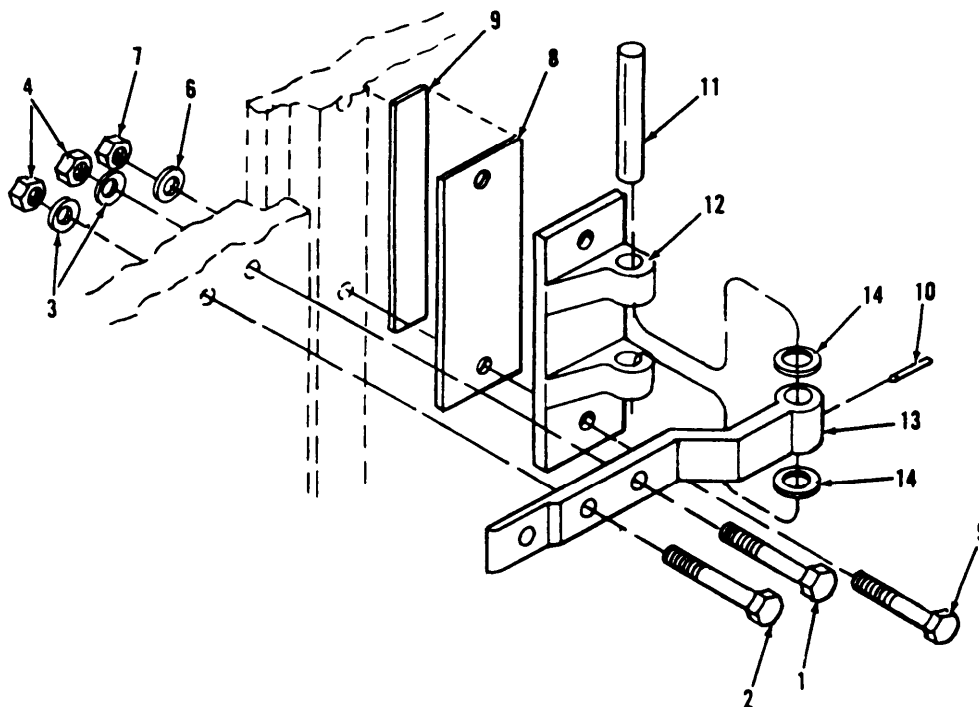

Figure 3-16. Hinge Assembly Replacement.
a. Inspect. (Figure 3-16)
- (1) Inspect hinge for ease of movement.
- (2) Inspect for cracks or dents.
- (3) Inspect secure mounting.
b. Remove. (Figure 3-16)
- (1) Remove and retain two bolts (1) and a bolt (2), three flat washers (3), and three nuts (4) attaching the hinge body (13) to door panel.
- (2) Remove and retain two bolts (5), flat washers (6), and nuts (7) attaching the hinge butt plate (12) to shelter, and remove hinge and shims (8 and 9).